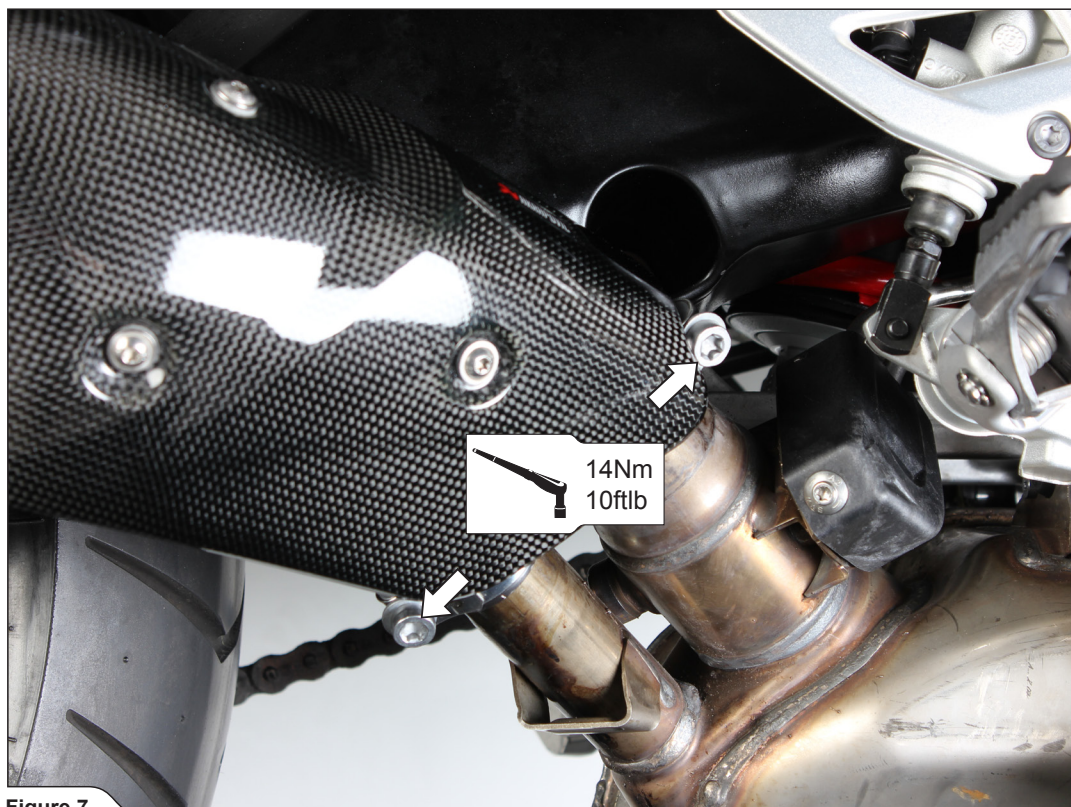

Figure 7
5. Tighten the clamps to the specified torque (Figure 7).